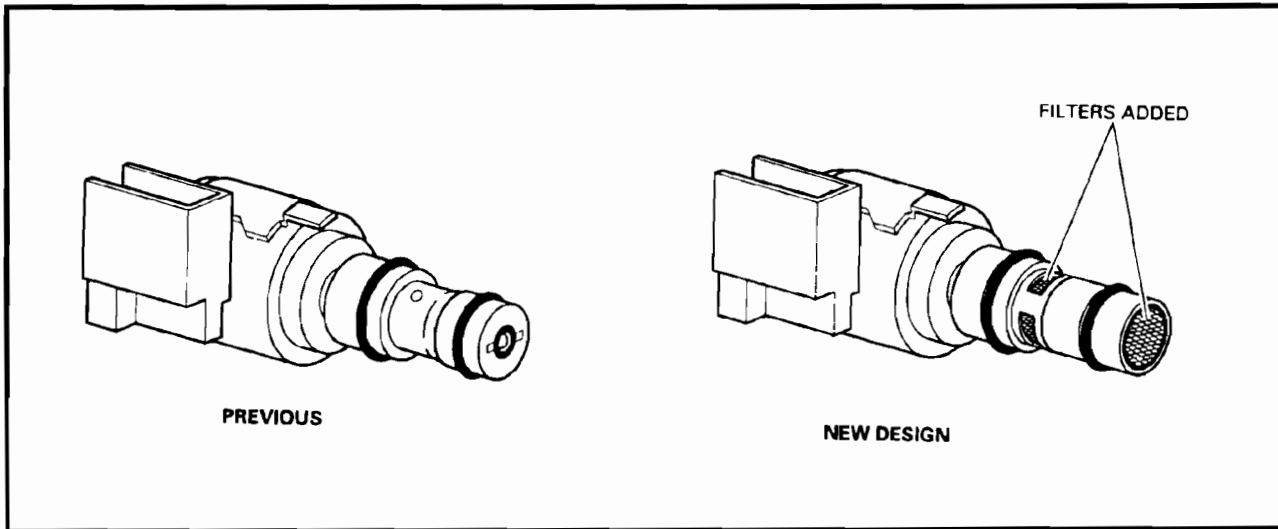
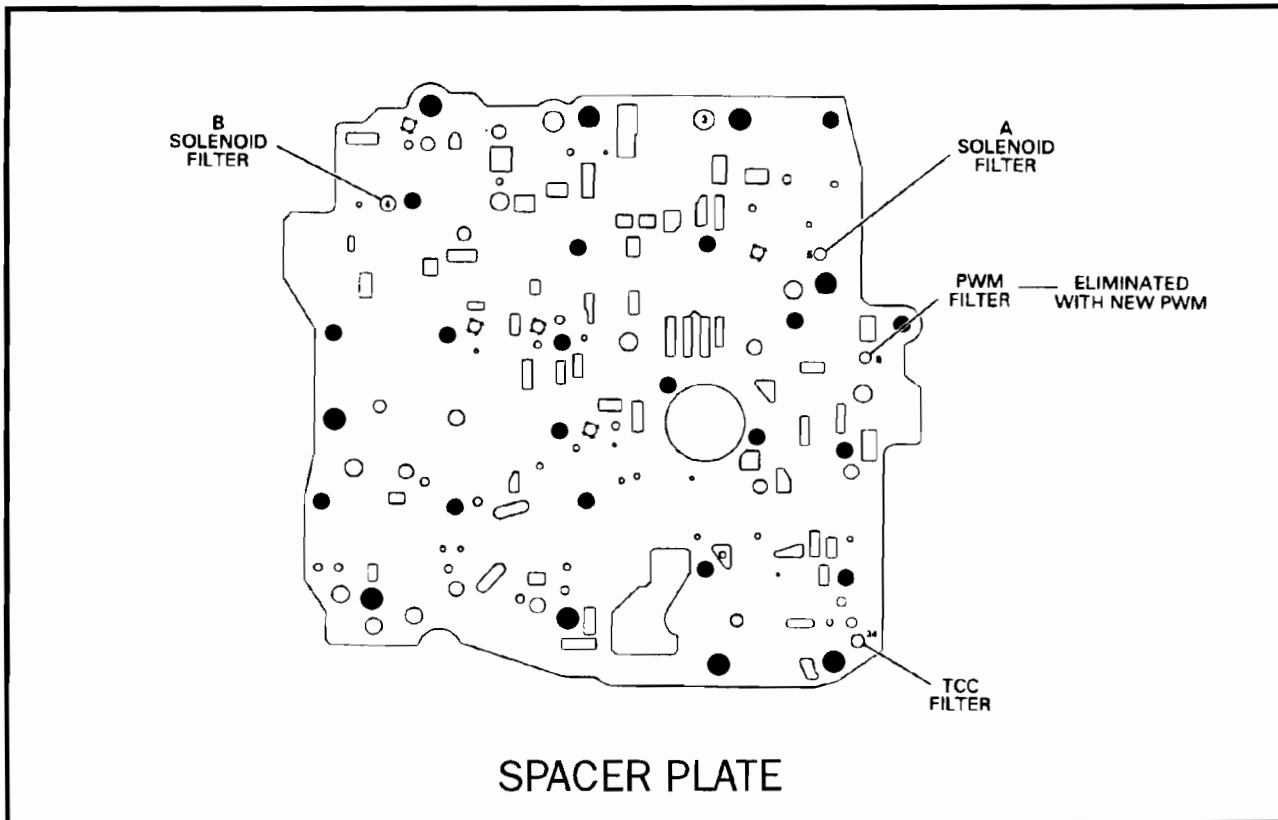

Figure 45
Figure 46
**CORRECTION:** Replace the Pulse Width Modulated (PWM) Solenoid with OEM part number 8683535. This is the new design solenoid, in which screens were added to the solenoid control and feed passages (See Figure 45). The PWM spacer plate filter has also been eliminated on the later models that use the new design PWM Solenoid (See Figure 46). The new design PWM Solenoid with screens added should be installed on all rebuilds to prevent contamination. It is not necessary to remove spacer plate filter when installing the new design PWM Solenoid.